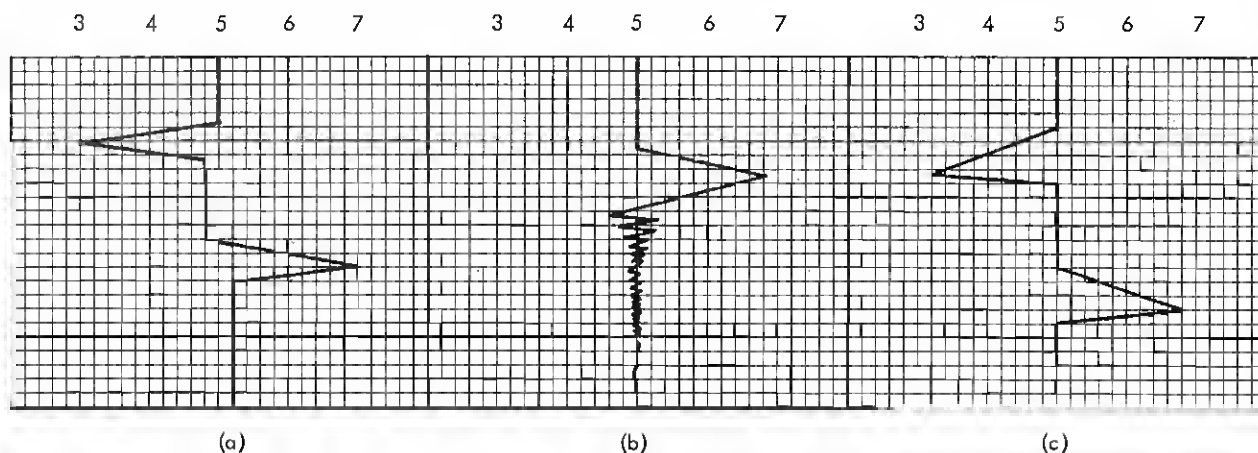

FIGURE 5-4. GAIN ADJUSTMENT CHART
d. Manually move the pen off null approximately  $1/10''$  (2.5mm). Allow pen to return to null slowly. Do not simply release it. Repeat this operation in the opposite direction. The trace should appear similar to (c) in figure 5-4. If the pen does not return to the original setting as shown in (a) of figure 5-4, the gain is too low. Oscillation of the pen and excessive over shoot as illustrated in (b) of figure 5-4 indicates excessive gain.
f. Repeat above procedure until trace similar to (c) of figure 5-4 is obtained.